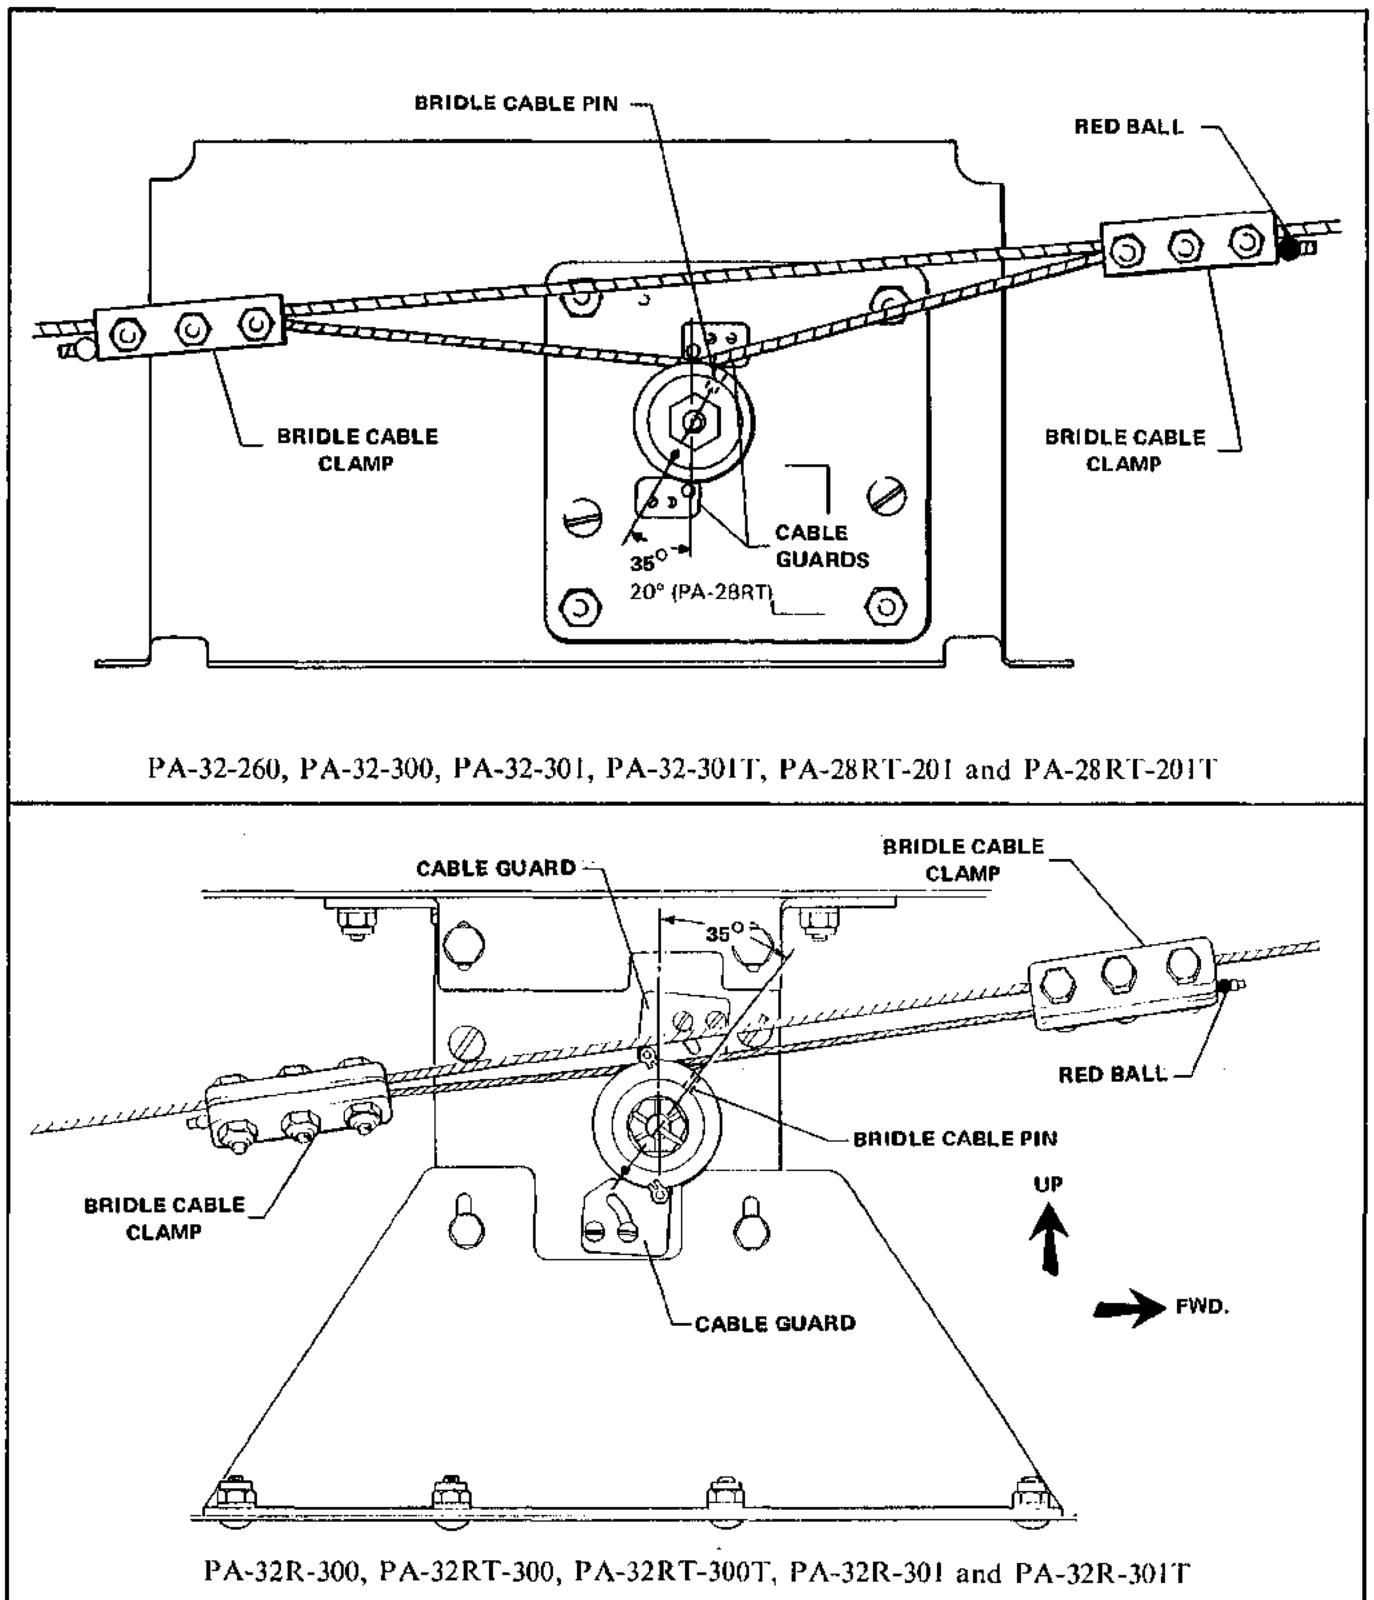

Figure 3-27. Roli Servo Installation
**3-82. INSTALLATION OF ROLL SERVO.** (PA-32-260, PA-32-300, PA-32R-300, PA-32RT-300, PA-32RT-300T, PA-32-301, PA-32-301T, PA-32R-301 and PA-32R-301T) (Refer to Figure 3-27.)
e. **REFER TO FIGURE 3-8 AND CHECK THAT THE CONTROL CABLE TENSION (z) IS ADJUSTED TO  $40 \pm 5$  POUNDS, PRIOR TO ATTACHING THE BRIDLE CABLE CLAMPS.** Ascertain area on cable where clamp attaches is clean, dry and free of all lubricants and anti-corrosive additives. Attach the bridle cable to the aileron balance cable. The bridle cable is drawn to the balance cable and attached with clamps at the previously painted locations on the balance cable. The longest portion of the bridle cable, or the end with the red ball, extends outboard toward the left side of the airplane. (Refer to Figure 3-27.) (Should the balance cable not be painted, position the control wheel in neutral and align the bridle cable pin, installed in the capstan, as shown in Figure 3-27.) Adjust the bridle cable clamps so the bridle cable tension (y) is equal to the